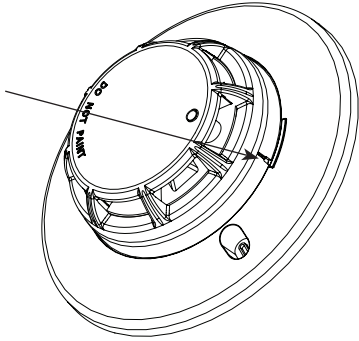

FIGURE 6: Locking Feature
- Once the detector has been installed the detector locks into the base. To remove the detector from the base, insert a small screwdriver into the slot on the detector (FIGURE 6) and push the plastic tab while simultaneously turning the detector head counter-clockwise.